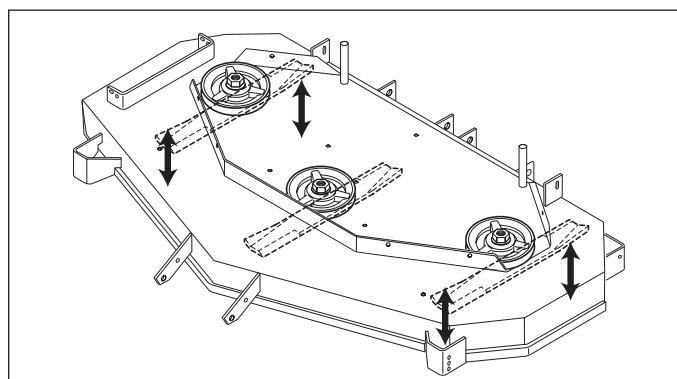

Figure 19. Checking The Blade Height Measurement
9. **For your safety, DO NOT handle mower blades with bare hands.** Position the outside mower blades so that they face front-to-back (Figure 19).